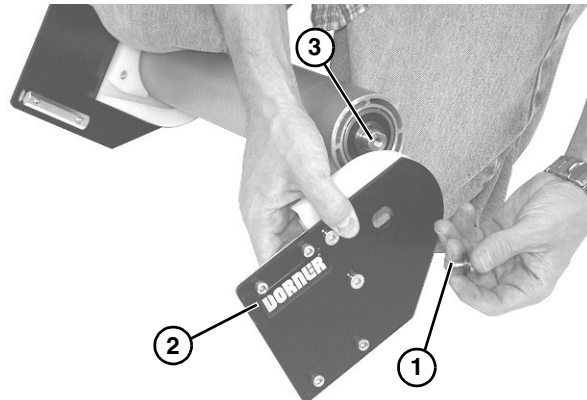

Figure 42
4. Remove socket head screw (Figure 42, item 1) from plate (Figure 42, item 2) and center of spindle shaft (Figure 42, item 3). Repeat procedure on opposite side.